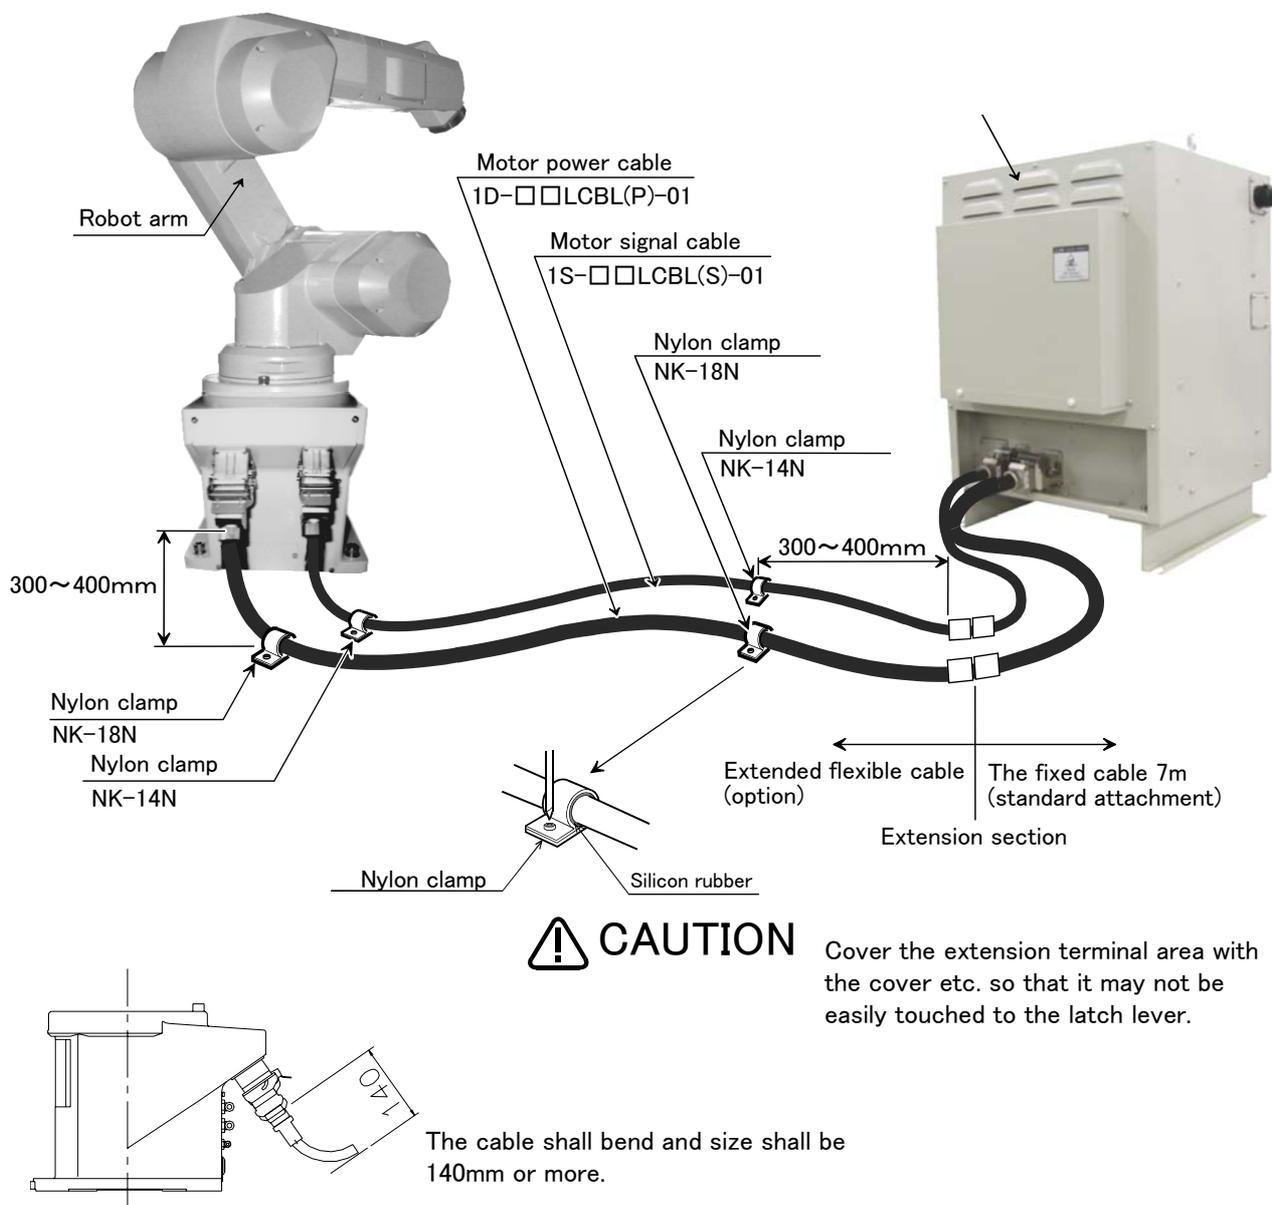

Fig.2-9 : Fixing the flexible cable
- (1) Connect the connector to the robot arm .
- (2) Wind the silicon rubber around the cable at a position 300 to 400 mm from the side of robot arm and extension section as shown in Fig. 2-9, and fix with the nylon clamp to protect the cable from external stress.